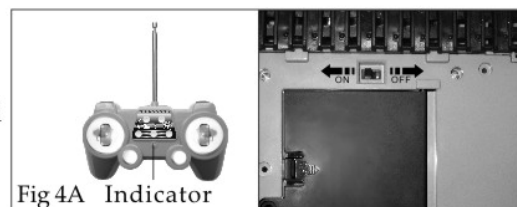

Fig 4A Indicator
1. ON OFF Button push the key to "ON" on the chassis and then press any key on the remote controller the light of indicator will be turned red and there is a sound of engine starting to shut down the car just press the switch on the chassis to "OFF" (Fig 4A)